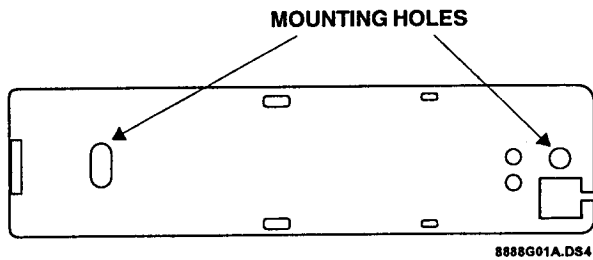

Figure 3. Mounting Hole Locations (Bottom View)
3. Mount the sensor base with two #6 flathead screws at the locations shown in Figure 3. If you need to connect external switches, they should be installed at this point. Use the procedure for connecting external switches.